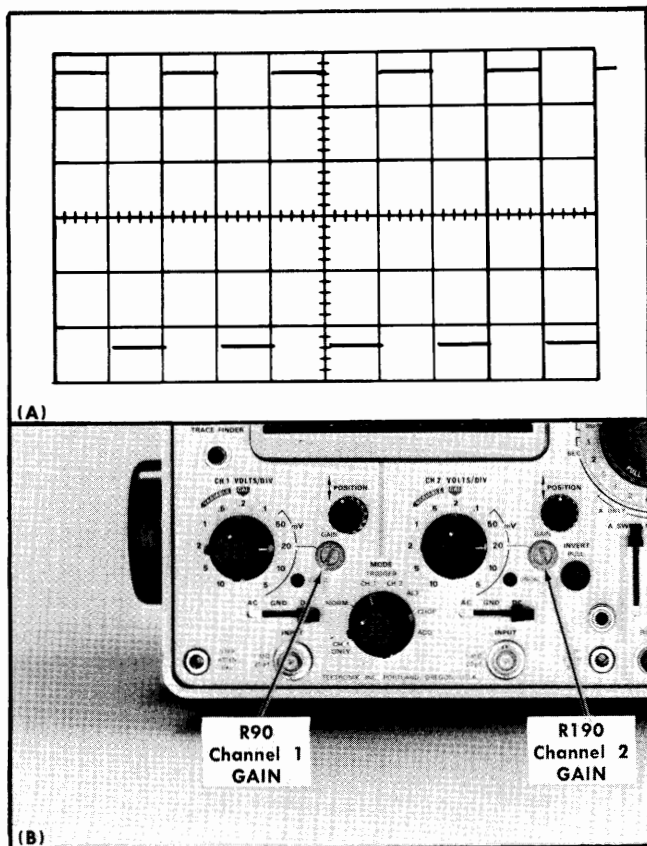

Fig. 5-13. (A) Typical CRT display showing correct gain adjustments; (B) location of Channel 1 and 2 GAIN adjustments (front panel).
- f. ADJUST—Channel 1 GAIN adjustment, R90 (see Fig. 5-13), for exactly five divisions of deflection.